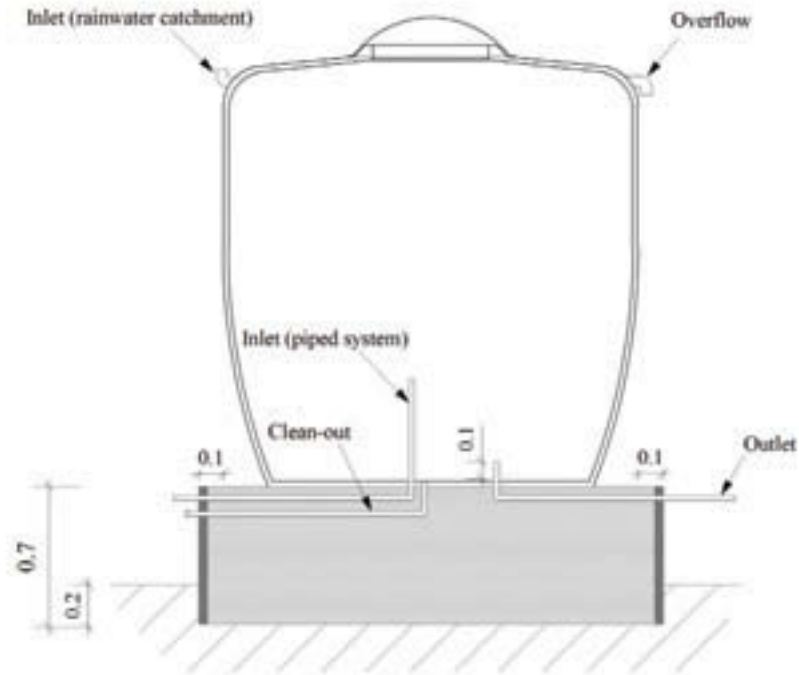

Fig. 84: Building a raised foundation
One option is to construct the tank on a raised foundation. Lifting the entire tank allows one to fill buckets easily without moving the outlet. The foundation is constructed by filling a ferrocement ring with compacted rubble, which is then covered by a thin layer of poured concrete that incorporates the tank base (figure 84).
5. Rather than attaching the outlet and cleanout to the side of the tank, integrate them into the base by: 1) laying the pipes in the proper position (figure 84), 2) adding the base reinforcement as detailed in Part I (figures 23a-d, 24) and 3) pouring the base. Be sure that no cement gets into the pipes by covering their ends during the cement-pouring process or stuffing the ends with newspapers or cement bags.